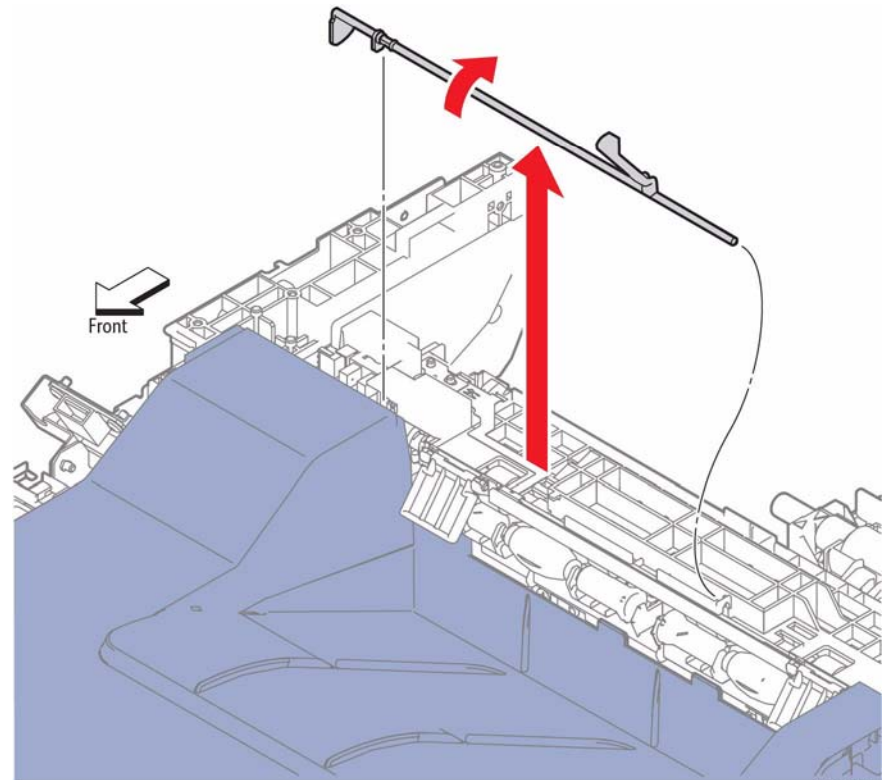

Figure 1 Remove the Stack Full Actuator
3. Refer to Figure 1 to remove the Stack Full Actuator by swinging it 90deg upward and releasing the left end; then, release the right end from the hole.